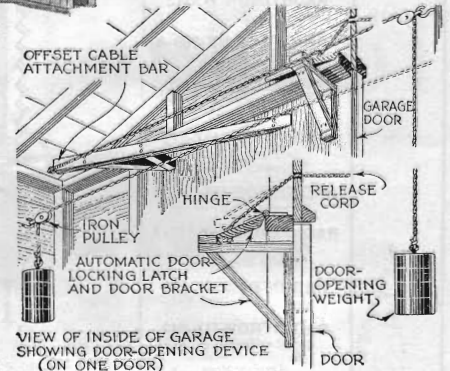

Fig. 2. Arrangement of weights and pulleys to open garage doors and the release latch which is used to put the handy device in operation.
**W**HEN you come back from a drive it is a nuisance to have to get out, unlock and open the garage doors, climb back in the car, and drive in. A novel and ingenious way to arrange self-opening garage doors is shown in Fig. 1, and details of construction are given in Fig. 2. Instead of stopping the car you reach out and pull the end of cord placed conveniently near the driveway and some distance from the garage doors. The doors at once swing open and you continue into the garage.
The secret lies in the peculiar leverage that translates the downward pull of two weights into effective opening pulls on the doors. Note that the point of attachment for the end of the cord is on the end of wooden frame so that as the door swings outward the point of attachment moves to let the weight go downward. Fig. 2 shows the release latch which should, of course, be fitted to the door which has a bead to keep the other door closed.